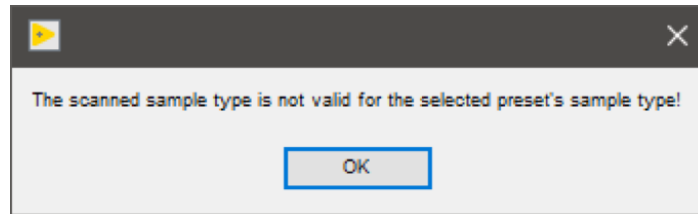

Figure 33- Mismatched label and preset warning message
- The preset must match the label type (i.e., working half preset will only accept a working half label ID). If the preset and label do not match, the user will be notified (**Figure 33**).